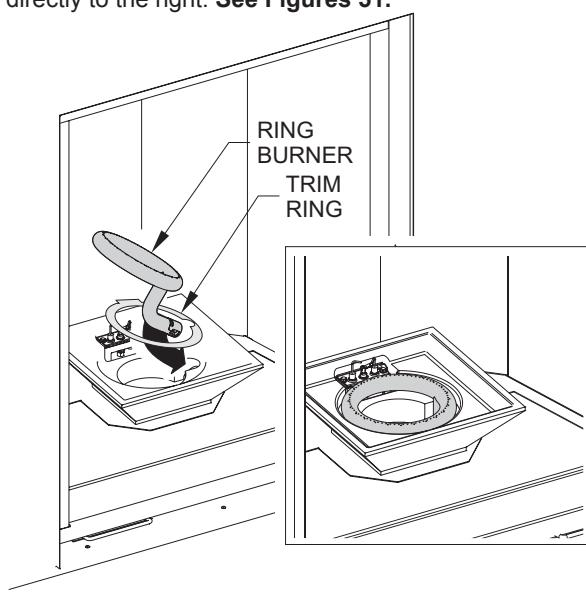

**Figure 52**
6. Fit the Center Burner and Center Burner Screen together as shown in **Figure 52.**